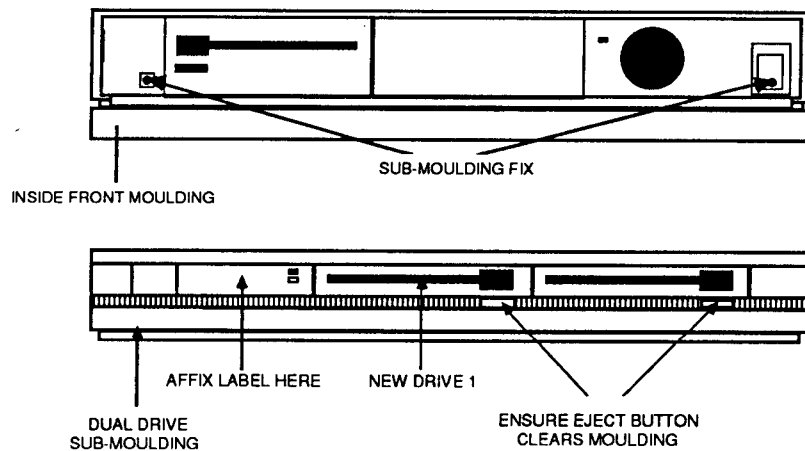

Fig. 5 – Front moulding assembly details
9. Taking the front moulding assembly, locate and remove the two self-tapping screws at each end inside the main moulding and slide the sub-moulding away from the main moulding (see Fig. 5).